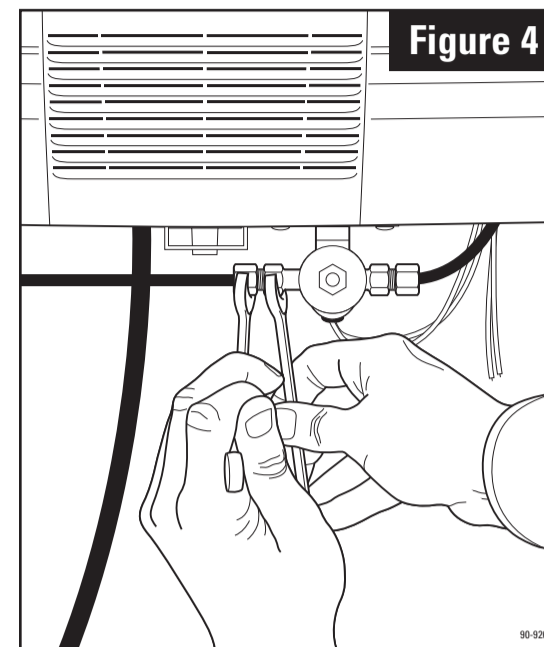

Figure 4
9. Connect tubing from the saddle valve to the inlet side of the solenoid valve using 1/4" O.D. copper tubing (not furnished). DOUBLE WRENCH TO PREVENT LEAKING! (See Figure 4)